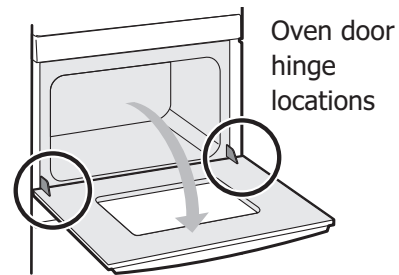

Figure 11: Location of hinges
1. Open oven door completely, horizontal with floor (Figure 11).
3. Fully open the oven door, horizontal with floor (Figure 11).